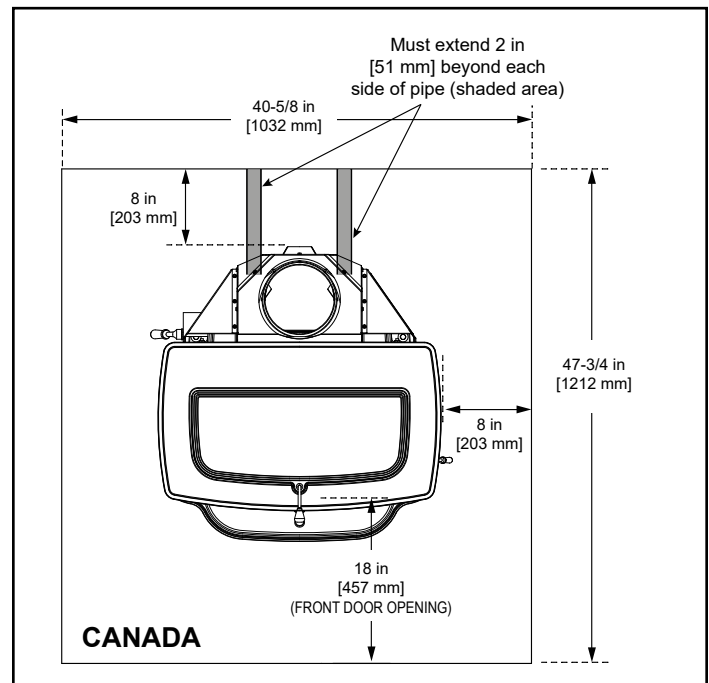

Figure 3.6
In Canada, similar floor protection must be provided 18" (457 mm) in front and 8" (203 mm) from the sides and rear of the appliance, Figure 3.6
***EXCEPTION:** Non-combustible floor protections must extend beneath the flue pipe when installed with horizontal venting and extend 2" (51 mm) beyond each side, Figure 3.6.